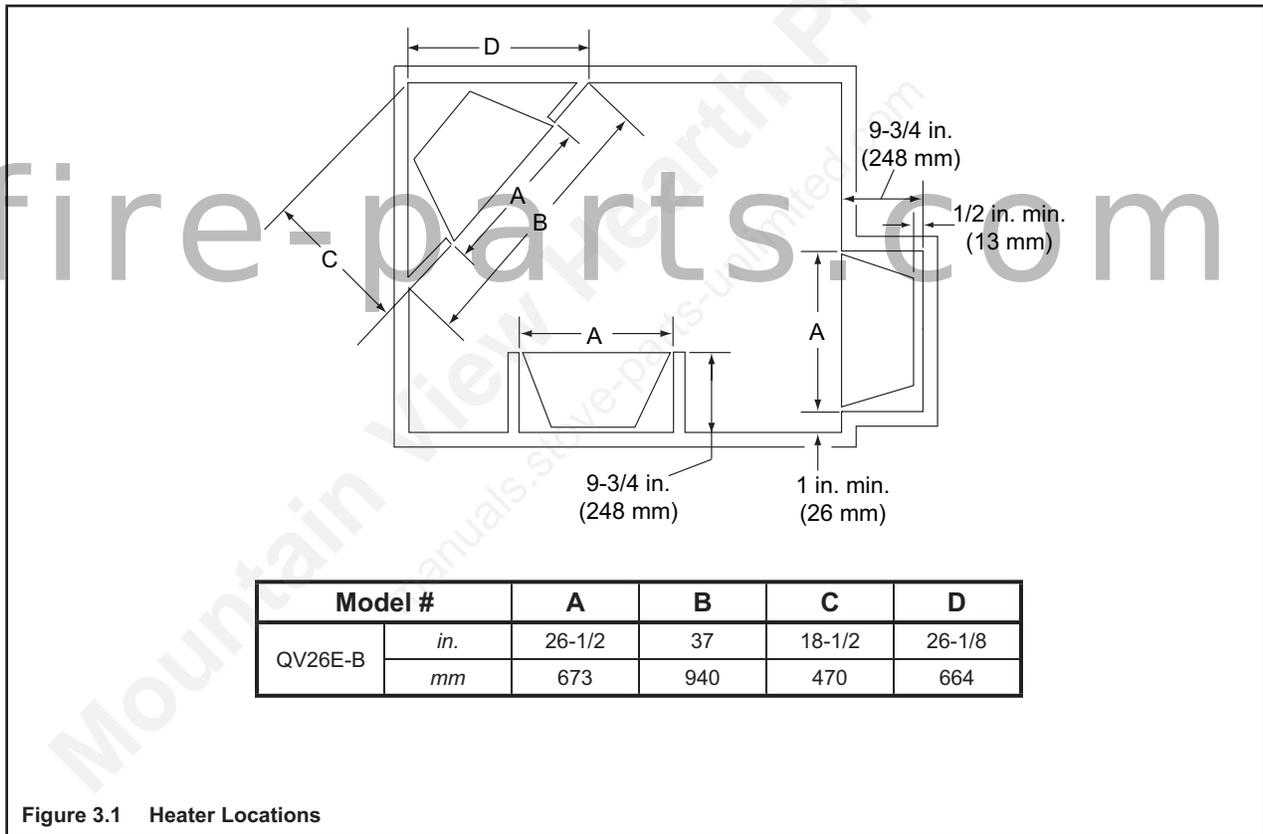

Figure 3.1 Heater Locations
Several options are available to you when choosing a location for your heater. This heater may be used as a room divider, installed along a wall, across a corner or used in an exterior chase. See Figure 3.1. This heater may be installed directly on the floor, carpet or raised on a hearth.
Figure 3.1 shows all clearances that must be maintained around the heater.
- If using a wall cabinet or corner cabinet, refer to the installation instructions supplied with the kit. For custom cabinets, frame and construct with the opening and depth dimensions listed in Figures 3.1 and 3.2.
- Follow recommended framing dimensions in Figures 3.1 and 3.2.
- Minimum fireplace opening requirements are shown in Figures 3.1 and 3.2 of this installation manual. The firebrick (refractory) can be removed from a factory built fireplace in order to gain minimum insert opening requirements.